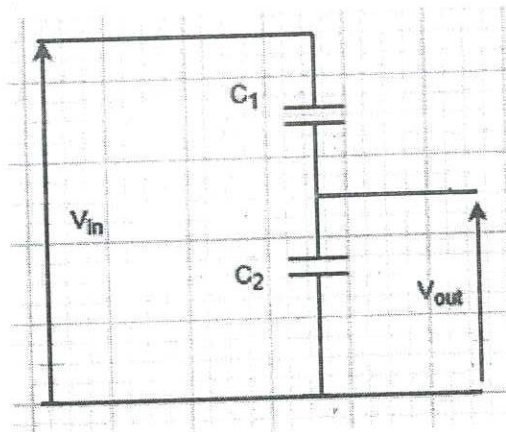

Figure Q4.2
- b) Consider the capacitor voltage divider circuit shown in Figure Q4.2. If the input voltage  $V_{in} = 50 V$ ,  $C_1 = 50 \mu F$  and the tolerance values for both the capacitors are  $\pm 5\%$ . Select a suitable value for  $C_2$  from E12 series such that  $25 \geq V_{out} \geq 35$ . [3.5 Marks]